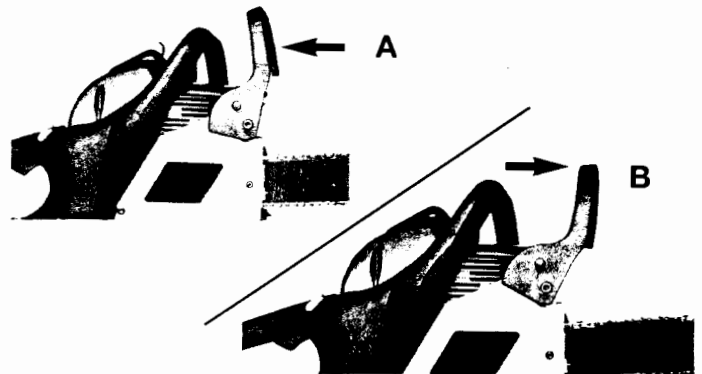

Fig. 24
1. The Chain Brake® is **DISENGAGED** (chain can move) when **BRAKE LEVER** IS **PULLED BACK AND LOCKED** (A, Fig. 24).
2. The Chain Brake® is **ENGAGED** (chain is stopped) when brake lever is in forward position. You should not be able to move chain (B, Fig. 24).